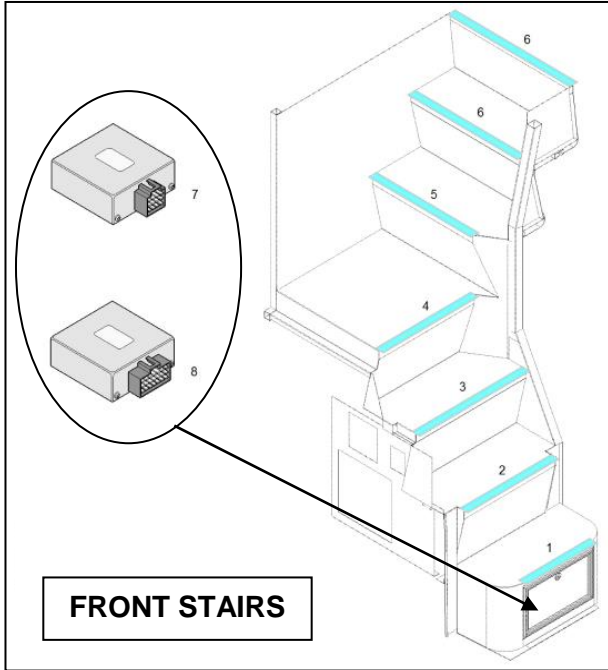
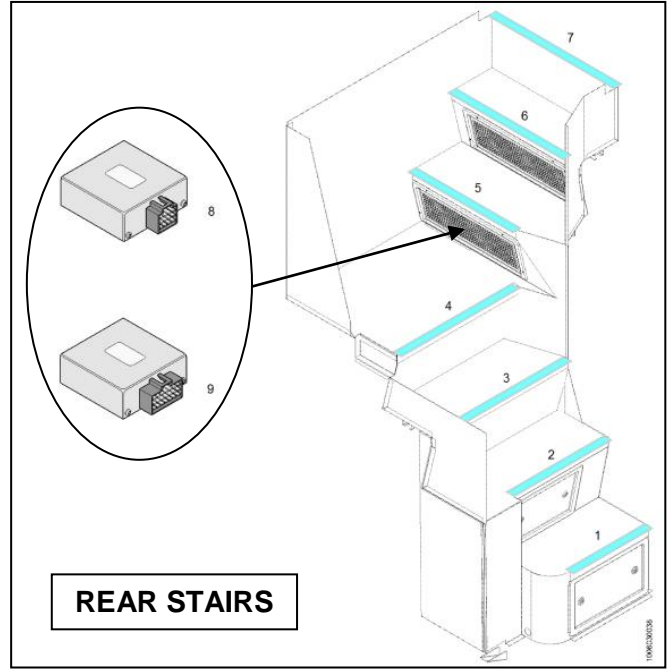

Figure 2A: Step nose lighting on front stairs
Figure 2B: Step nose lighting on rear stairs
1.1	<ul style="list-style-type: none"> • On the front stairs: remove the access panel of the compartment located in the first step (refer to figure 2A) to gain access to the controllers. • On the rear stairs: remove the access panel of the compartment located in the fifth step (refer to figure 2B) to gain access to the controllers.  <p>Figure 3: Location of step nose lighting controllers in first step compartment of front stairs (example)</p>